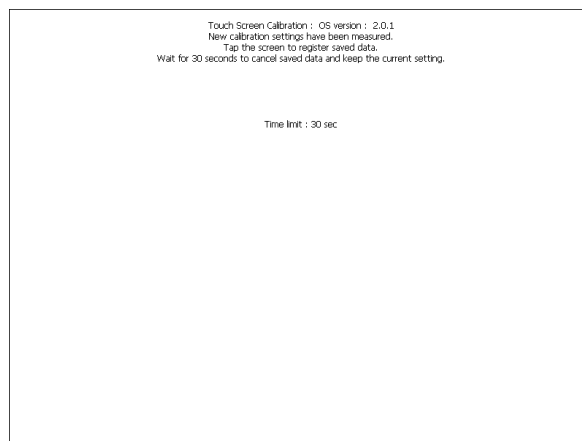

Figure 29: Touch Screen Calibration: Completed
4. When the last cross hair has been touched, Figure 29 displays 'New calibration settings have been measured'.